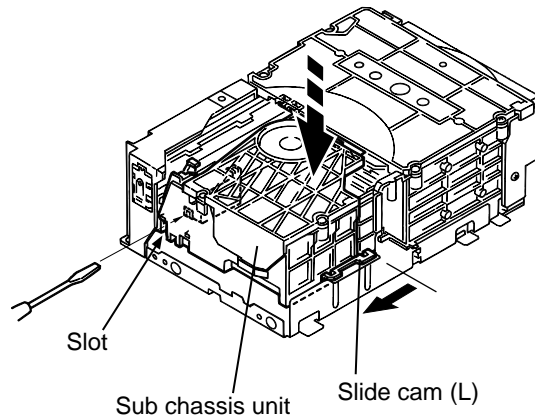

Fig.1
■ Removing the servo control board (See Fig.1 to 4)